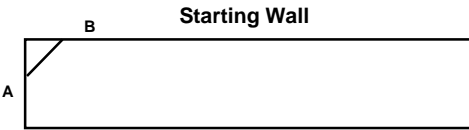

Figure 2
E. Establish the working line for a diagonal installation by measuring 4' to point A & B from the starting corner opposite an exit. See Figure 2.